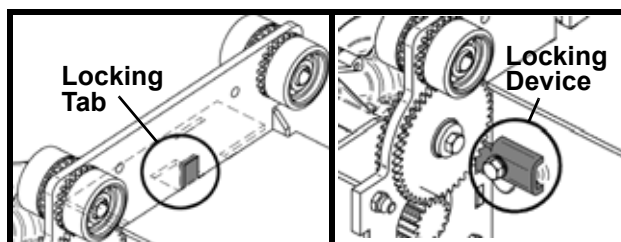

Fig. 21
- 3) Remove the trolley locking device with an 8 mm socket (see Fig. 21).